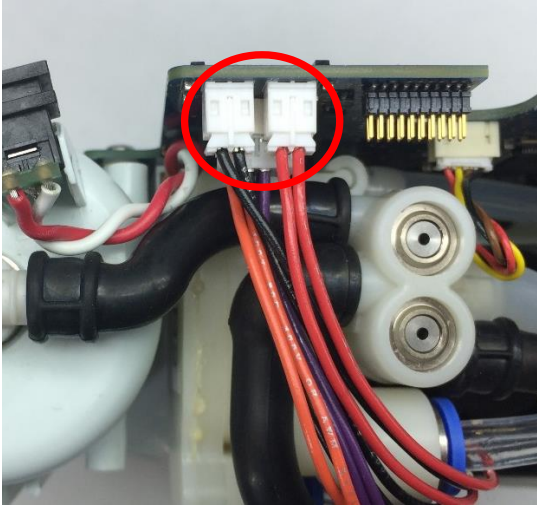

Figure 6: Feed Waste Manifold Harnesses
2. Disconnect the Feed Waste manifold harnesses and the Product manifold harnesses. (Figures 6 and 7).